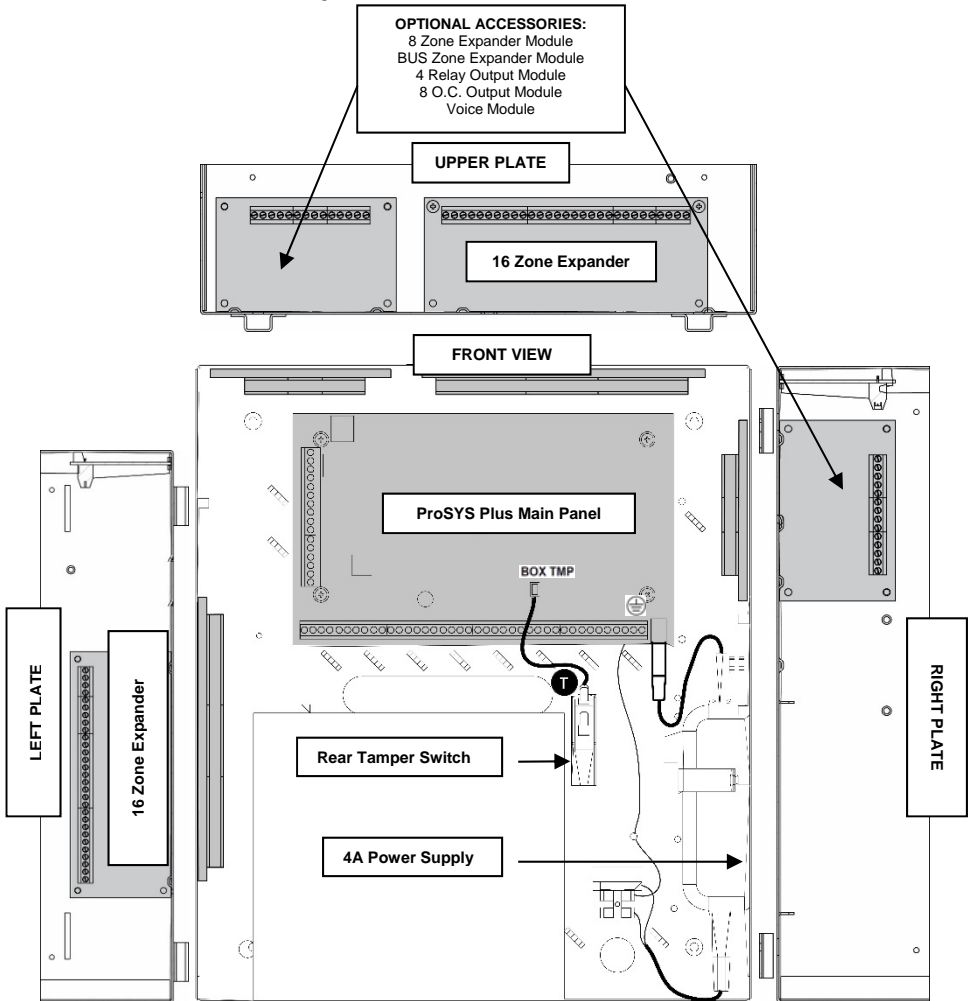

Figure 2
1. Install ProSYS Plus PCB as displayed above (figure 2).